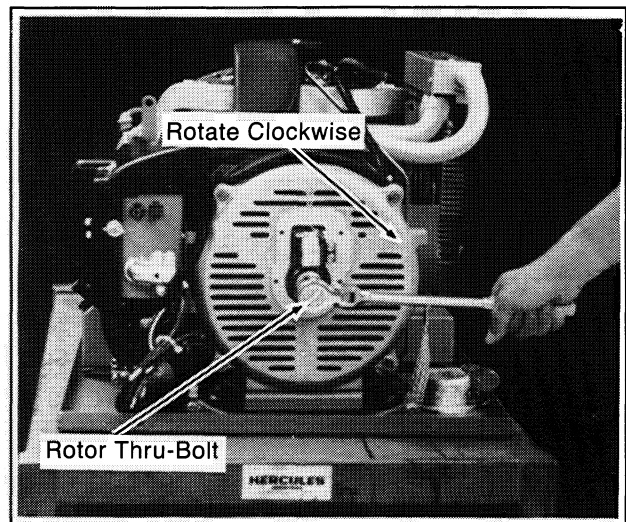

Figure 3-7. Breaker Point Gap Adjustment
4. Using a 3/4 in. socket wrench, rotate the rotor thru bolt clockwise until the points reach the maximum opening. See Figure 3-7.